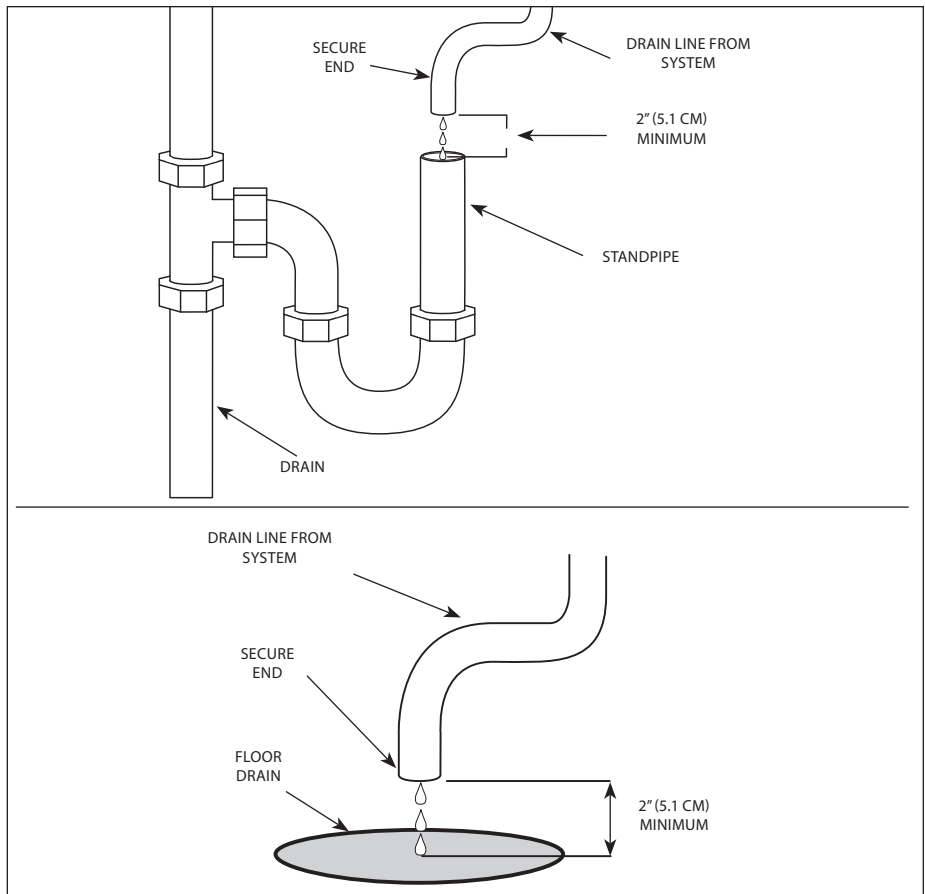

Figure 4. Proper Drain Plumbing
2. Connect one end of the hose to the Drain Valve and secure it with a Worm Clamp (Figure 4).
- The drain line plumbing must be positioned and secured at least 2 inches above the drain (Figure 4). This air gap protects the system from contamination in the event of a backed-up drain.